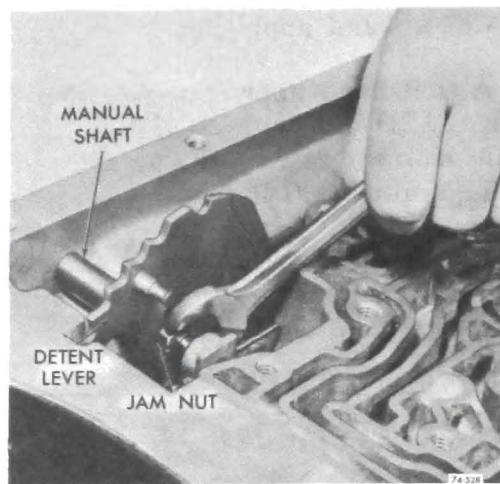

Figure 76-528
a. Unthread jam nut holding detent lever to manual shaft. See Figure 76-528.